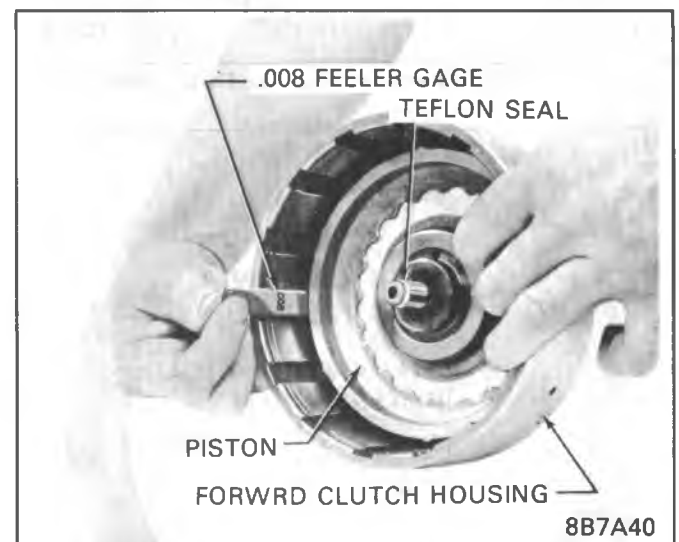

Figure 350C-67 Installing Forward Clutch Piston
3. Install spring retainer and springs. Compress spring retainer with an arbor press or ram press. See Figure 350C-64.